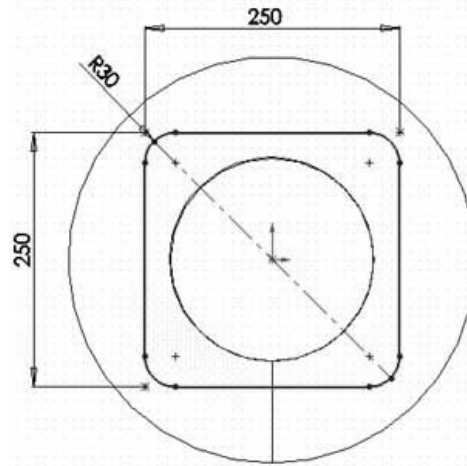

Figure 4 - Dimensions of the profile to be extruded
10. Sketch the profile, as shown in the Figure 4, and then exit the sketching environment.